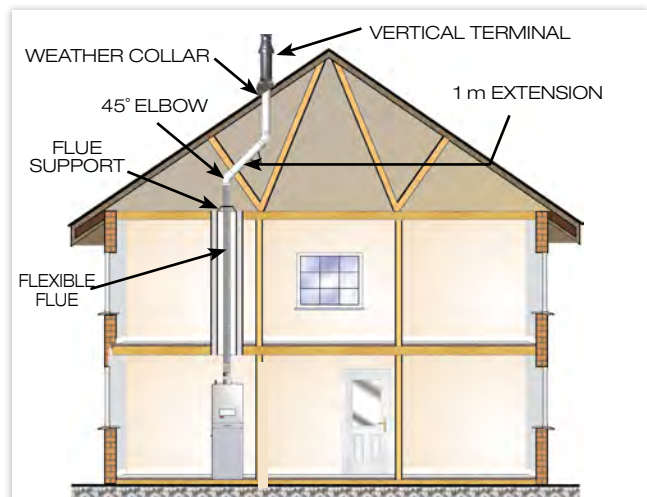

FIGURE 6. 60/100 mm FLEXIBLE FLUE EXAMPLE
10.11.1 A flue duct outlet of an appliance should be at least 600 mm from the boundary line when facing it and at least 300 mm from the boundary line when running parallel to it (See Figure 6).